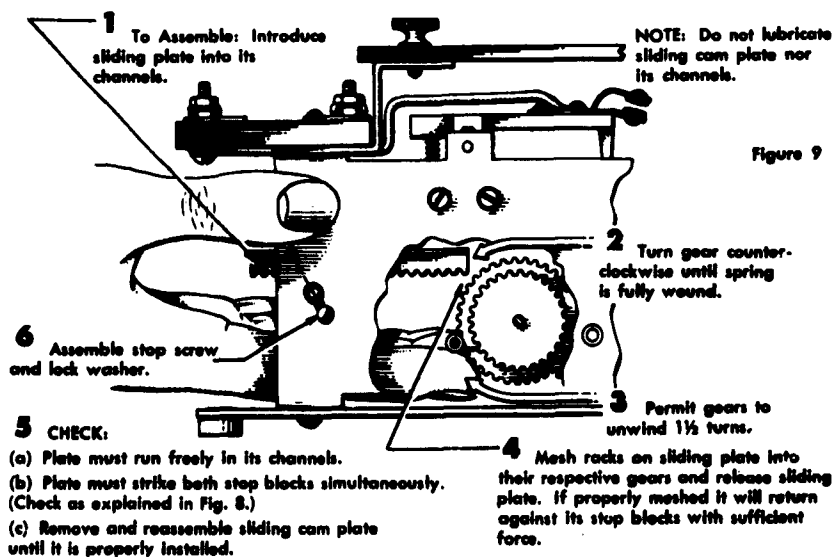

Figure 9
- Sliding plate must reset freely. Pull plate down against its bottom stop by hand. It should "snap back" with sufficient force when released. If it does not, refer to instructions of Fig. 9, Page 4 for correcting.
3. If the sliding plate channels in the side plates are dirty, clean by removing the sliding plate. To remove sliding plate, release stop screw from the end of the plate channel in the right side plate. Remove sliding plate by pulling it out of its channels. Clean the plate and the channels in the side plates using carbon tetrachloride and a stiff bristled brush. To replace plate, follow instructions in Fig. 9.